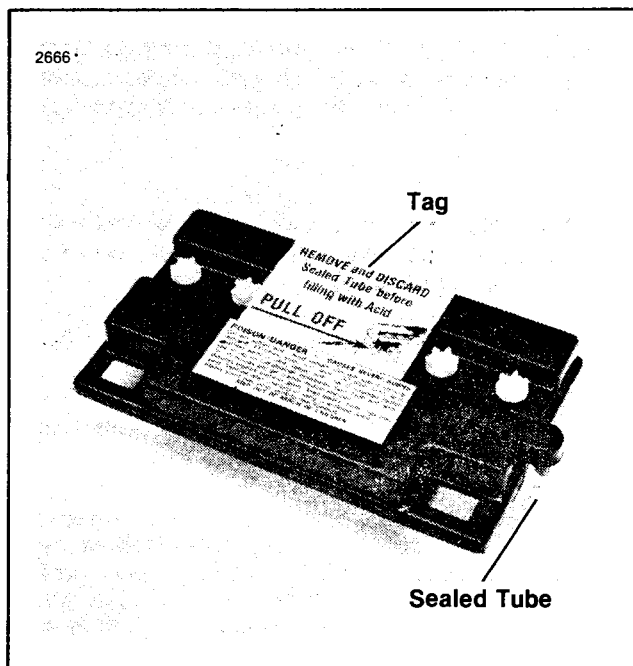

Figure 2. Reminder Tag and Sealed Tube
2. See Figure 2. Remove reminder tag. Pull off short sealed tube on vent elbow. Check that vent elbow is dry and clean and install long vent tube provided.